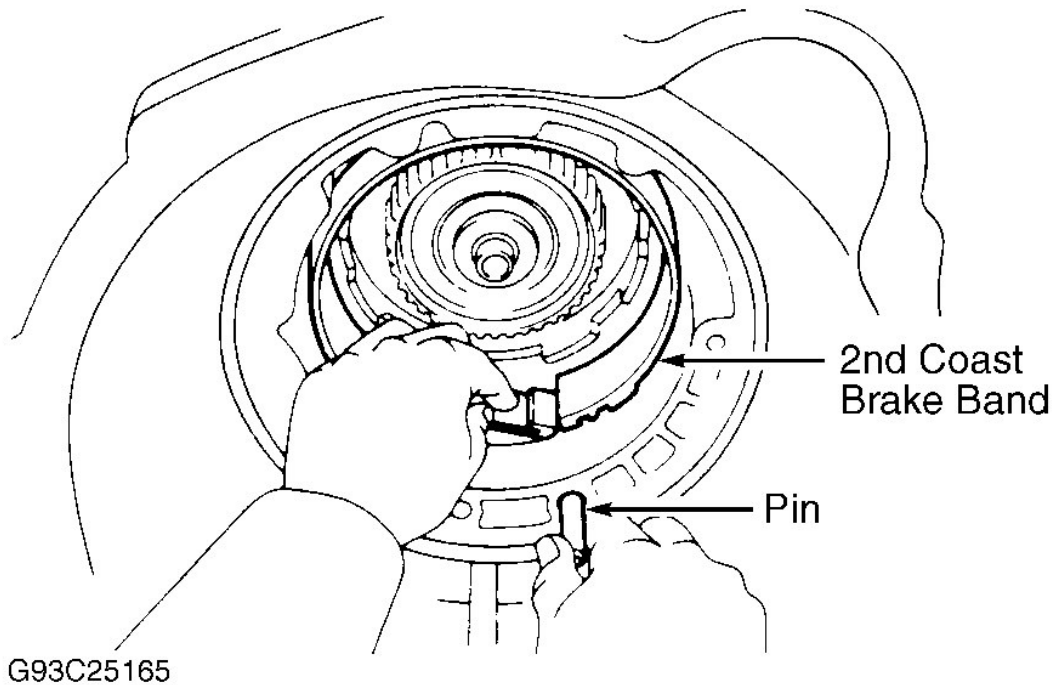

Fig. 46: Installing 2nd Coast Brake Band
20. Coat race with petroleum jelly. Install race onto tip of ring gear flange. Install intermediate shaft oil seal ring. Install 2nd coast brake band in case. Install pin through oil pump mounting bolt hole. See **Fig. 46**.